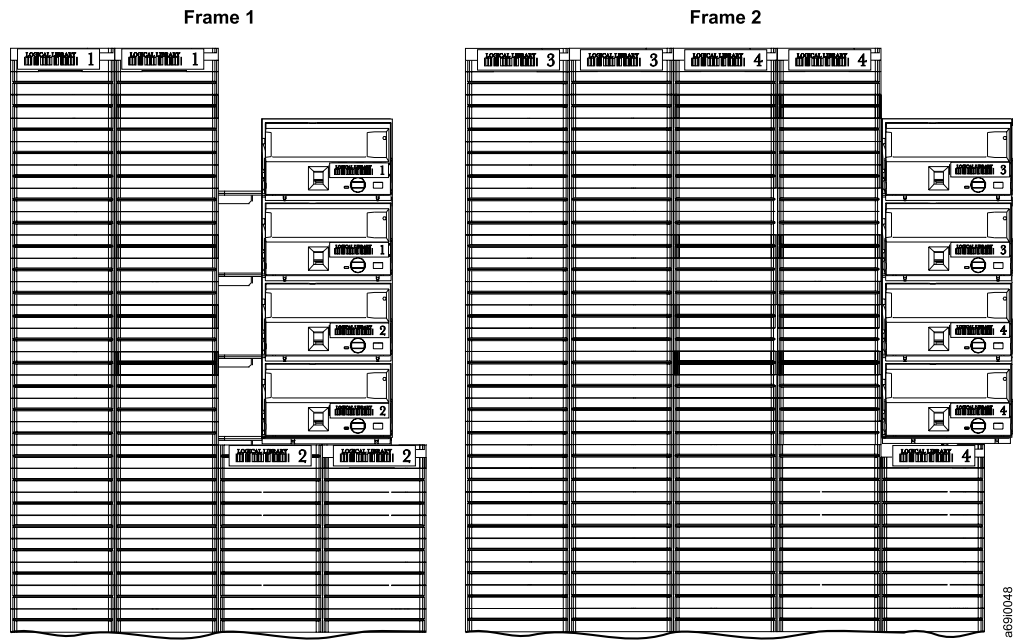

Figure 34. Indicating the Boundaries of Logical Libraries
Guidelines for Applying Labels: To indicate the boundaries of your logical library with labels, refer to Figure 34 on page 116 and use the following guidelines:
- Designate the boundaries of your logical libraries. The 3584 UltraScalable Tape Library does not allow non-contiguous labels of the same logical library number. For example, if columns are labeled 1, 2, and 1, the third column will be considered part of Logical Library 2. See the examples in Figure 34 on page 116.